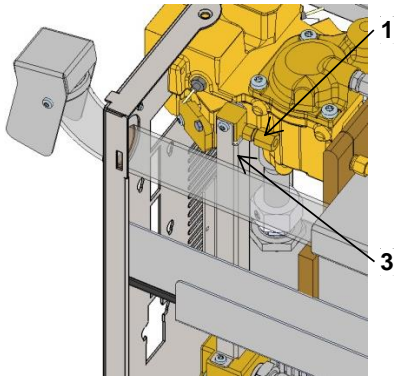

Fig. 2: Pulling out level indicator
5. To enable accessibility to the transducer (BB 1), the level indicator (10) must be removed. Proceed as follows:
- Undo screws on pipe (Label 1 → Fig. 2).
- Pull out level indicator (Label 3 → Fig. 2) so that accessibility to the transducer (BB 1) is ensured.